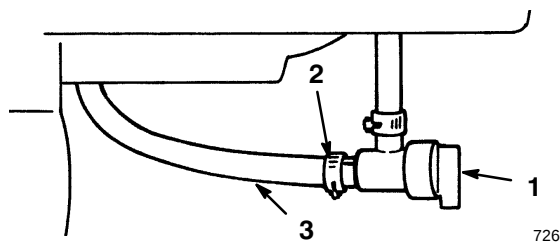

Figure 31
1. Close the fuel shut-off valve located under the fuel tank (Fig. 31) by rotating valve to the left.
3. Loosen the hose clamp that secures the fuel line to the valve and slide the line off of the valve (Fig. 31).